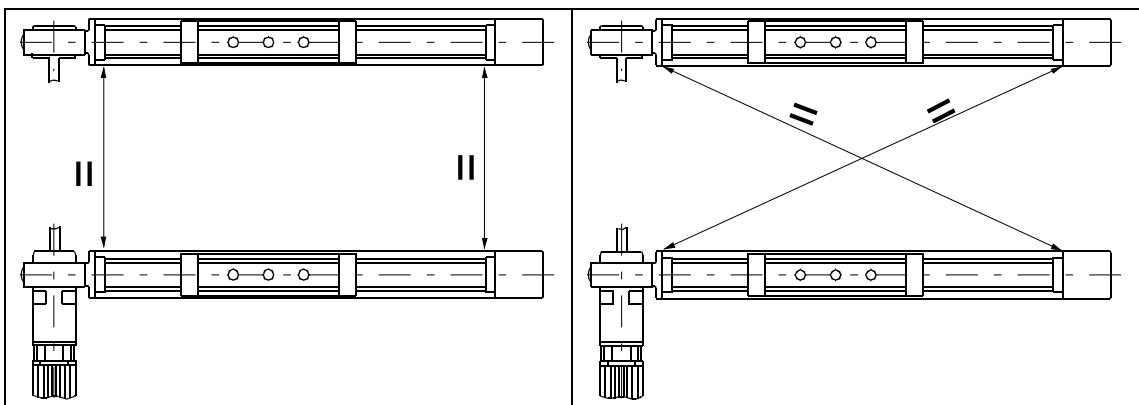

Fig 1: Alignment of a double-axis actuator
5. Verify parallelism (measuring tape) (see figure 1).
6. Measure both diagonals in order to verify rectangularity (measuring tape) (see figure 1). Correct diagonal measure by parallel movement of the second linear actuator, if necessary.